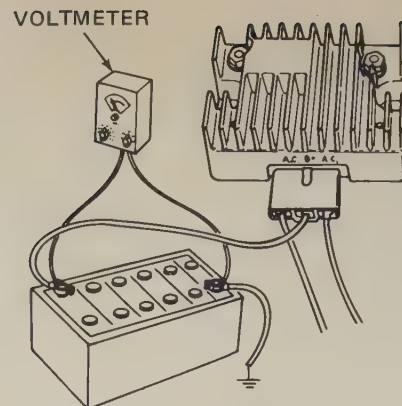

FIG. 28-21 Checking voltage at the battery. (Tecumseh Products Company)
Isolate the trouble by reconnecting the battery and checking the voltage between the two battery terminals, as shown in Fig. 28-21, with the engine operating near full throttle. If the voltage is 13.8 volts or higher, turn on a load such as the lights to reduce the voltage below 13.6 volts. If the charging rate increases, the system is in good condition. If the charging rate does not increase, the stator or rectifier-regulator is at fault and a further check must be made.
**Battery Overcharging** This condition is probably due to a defective rectifier-regulator. You can check with a dc voltmeter connected as shown in Fig. 28-21 with the engine operating at nearly full throttle. If the voltage goes over 14.7 volts, the regulator is not functioning and the rectifier-regulator must be replaced. If the voltage remains under 14.7 volts, the system is functioning satisfactorily. There may be some trouble in the battery, such as a shorted cell, which causes the charging rate to remain high. Battery checking is described in Chap. 22.